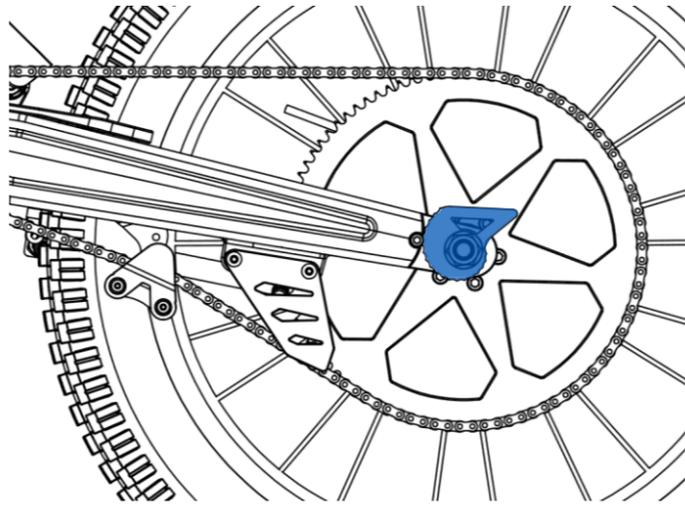

Fig. 19
- 3- The eccentric adjuster (Fig. 19) must be turned to a position depending on the chain slack and the correct tension must be obtained. It must be ensured that the stop is located between the teeth of the eccentric adjuster and the two sides equally. These components must be placed in the appropriate position according to the required tension level.
- 4- It is necessary to turn the eccentric completely to adjust its position. Figure 19 shows the configuration corresponding to the minimum position of the wheel, which must be maintained until half of the travel is reached.